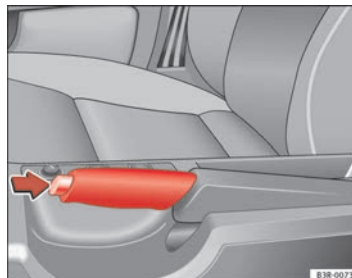

Fig. 149 Detail of the centre console: Handbrake applied
- Pull the lever up slightly and *at the same time* press in the release button ⇒ **fig. 149 -arrow-**.